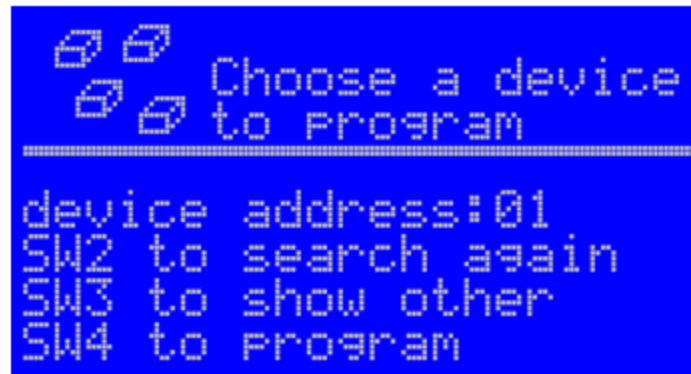

Figure 10-19. LCD OTAP Devices Screen
- Once the OTAP Programmer Board finds a device, press SW3. The OTAP Programmer shows the device address (ID) on the screen. In this case, the device address is 0x01 as shown in Figure 10-19. If more OTAP-Enabled devices were found, press SW3 to see the device IDs.